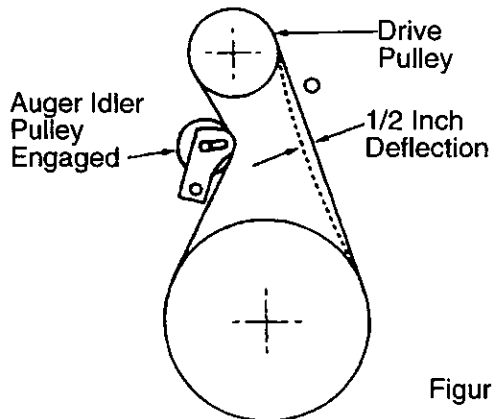

Figure 24
5. Press the auger drive lever. Check the tension on the belt (opposite **auger idler pulley**). The belt should deflect about 1/2" with moderate pressure (See Figure 24).